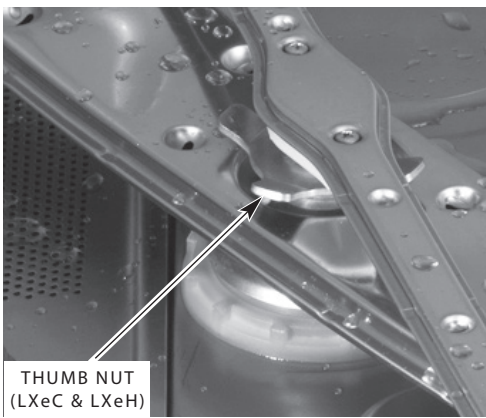
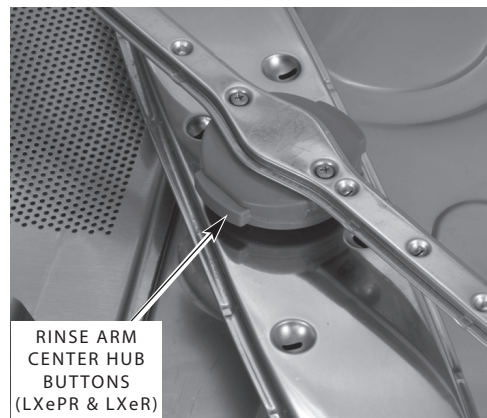

Fig. 10
Fig. 11
2. On LXeC and LXeH models, remove the lower rinse arm by unscrewing the thumb nut (Fig. 10). On LXePR and LXeR models, remove the lower rinse arm by pressing in on the buttons located on the sides of the center hub and pull off (Fig. 11). Remove the lower wash arm by pulling the arm off the shaft. Remove the upper rinse and wash arms in the same manner. Remove the coarse and fine strainers (see Figs. 7 and 8). Thoroughly clean these items in a sink. Remove debris from wash/rinse arm nozzles.